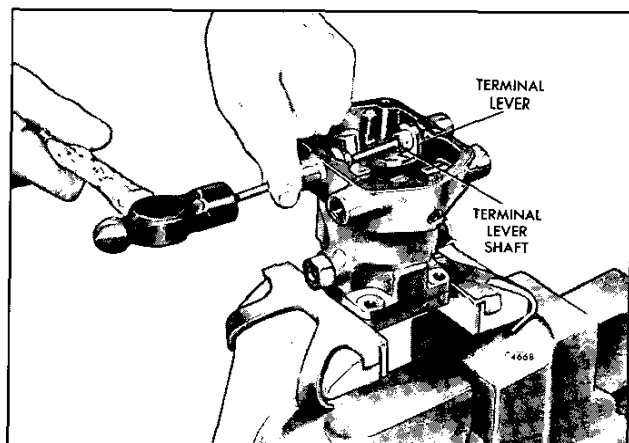

Fig. 9 – Removing Cup Plug from Governor Housing
16. Place a 1/4" brass rod, approximately 5" long, against the inner end of the terminal lever shaft, then drive the governor housing cup plug out of the boss at the side of the housing as shown in Fig. 9.